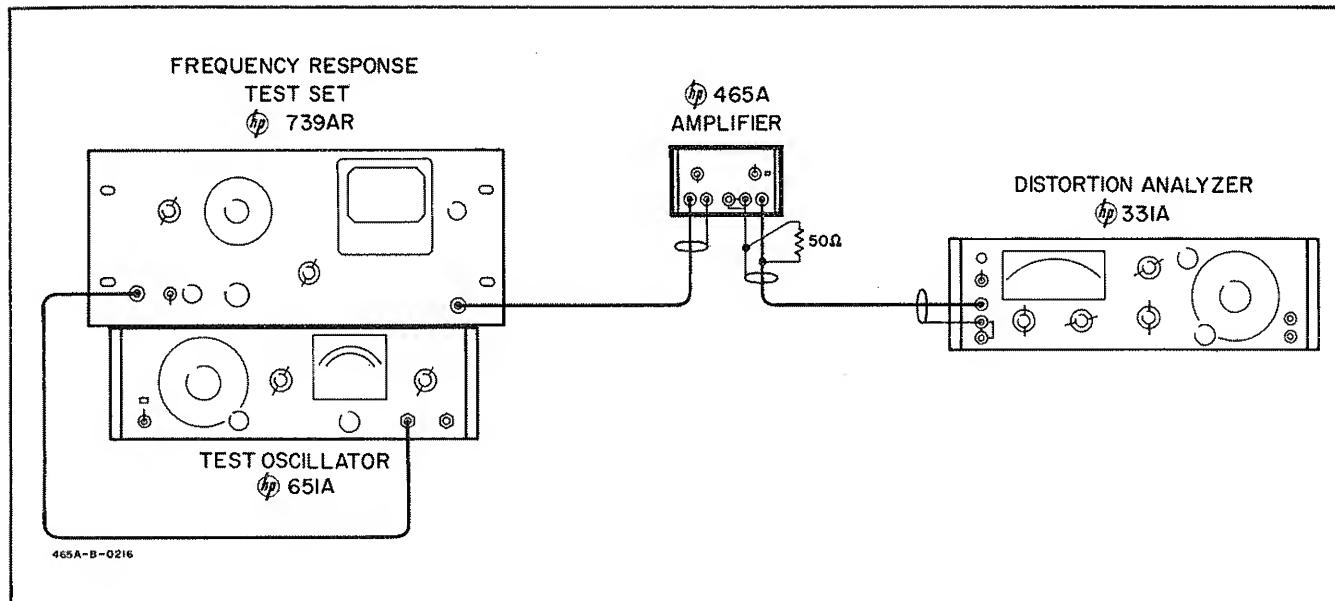

Figure 5-2. Distortion Check
- a. Figure 5-2 describes the test arrangement recommended. A Test Oscillator (-hp- Model 651A), a Distortion Analyzer (-hp- Model 331A) and a Frequency Response Test Set (-hp- Model 739AR) will be required.
- b. Connect Model 465A as shown in Figure 5-2.